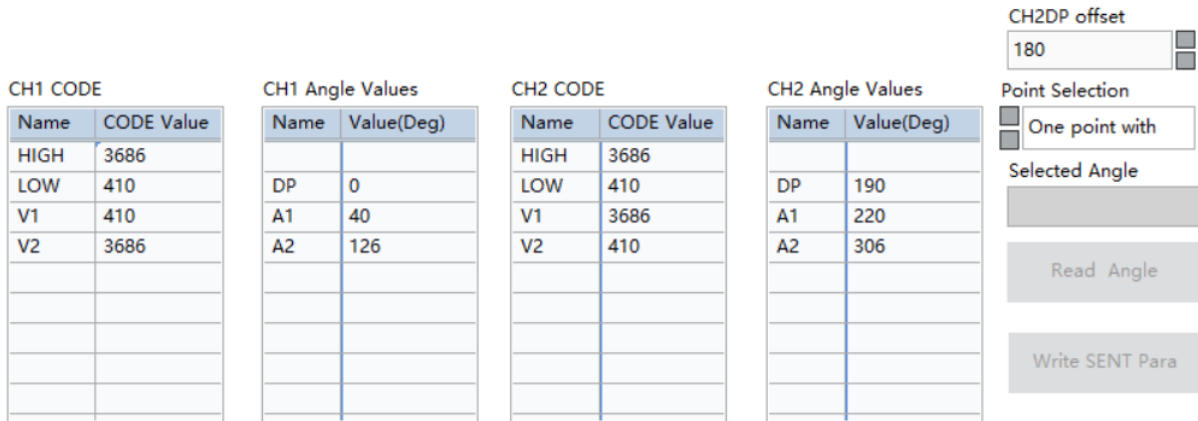

Figure 5.6.10 Two-point programming and fill in fixed parameters
- Fill in the above parameters in the corresponding parameter column. "HIGH", "LOW", "V1", "V2", and "DP" are fixed parameters that remain unchanged during repeated programming. (Note: The 'HIGH', 'LOW', 'V1'~'V8' parameters on this interface are decimal CODE values, with a range of [0: 4095]) The 'A1' and 'A2' parameters are manually controlled and represent the current actual angle value of the chip (Figure 5.6.10).